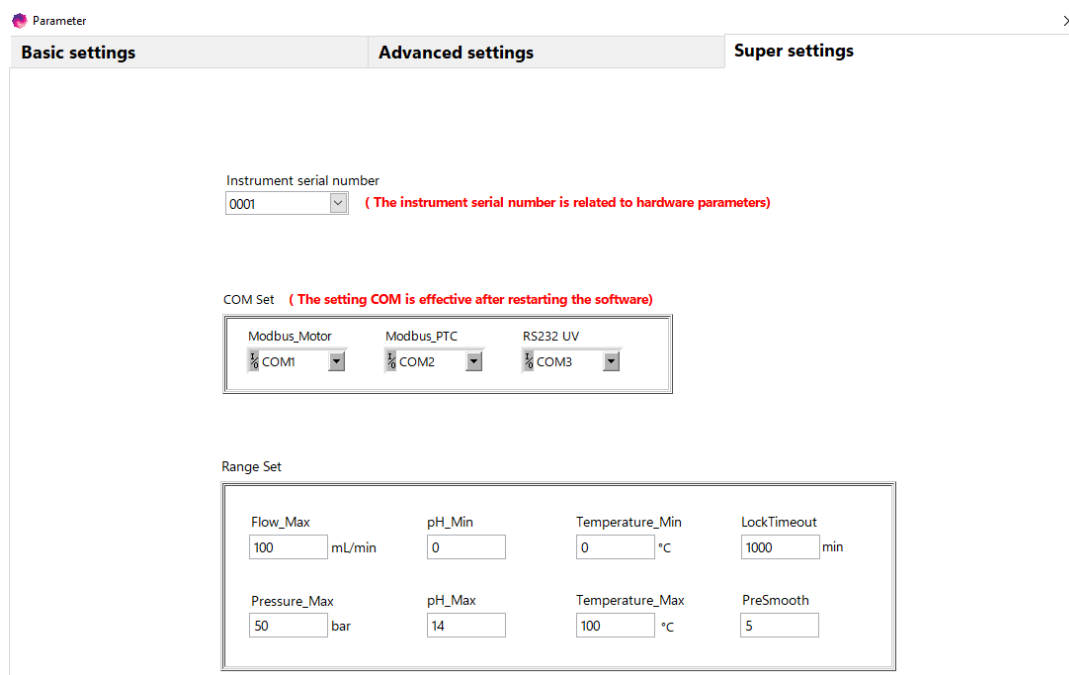

Figure 6: Super settings within the Parameter controls.
3. Click on Parameters and then Settings, then Super settings (third tab), as shown in Figure 6.